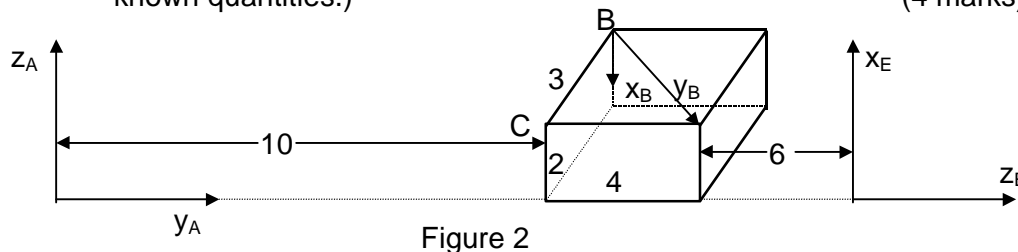

Figure 2
- Q.2 (a) Frame B is attached to a rigid rectangular block as shown in Figure 2. The block is initially positioned in space with reference to Frames A and E which are fixed frames of reference. The block undergoes the following ordered sequence of motion: